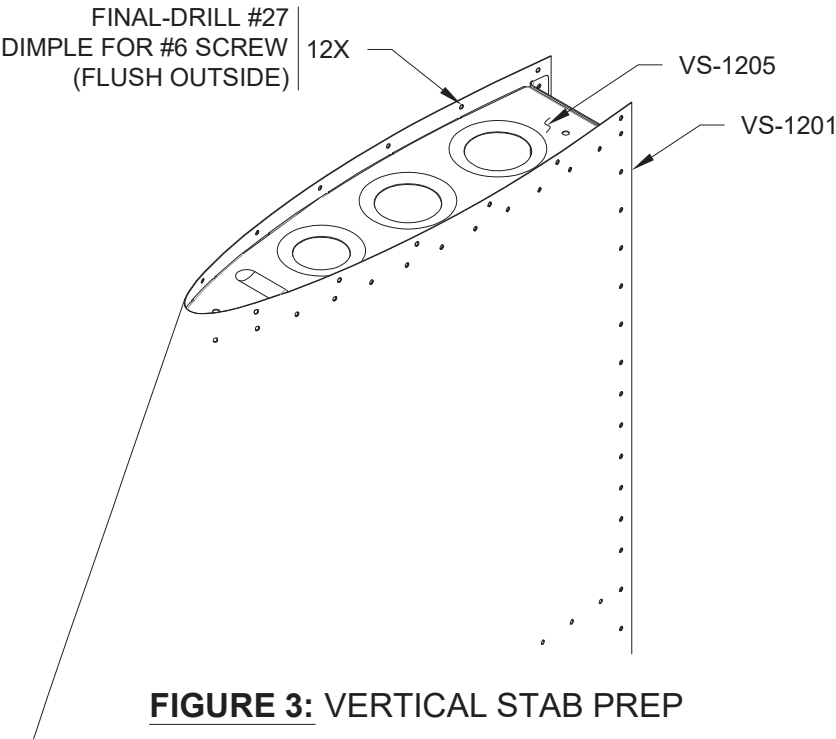

FIGURE 3: VERTICAL STAB PREP
Step 7: Final-drill #27 all holes in the VS-1201 Main Skin which are above the VS-1205 Tip Rib. See Figure 3.
Step 8: Dimple all #27 holes for #6 screws as shown in Figure 3.